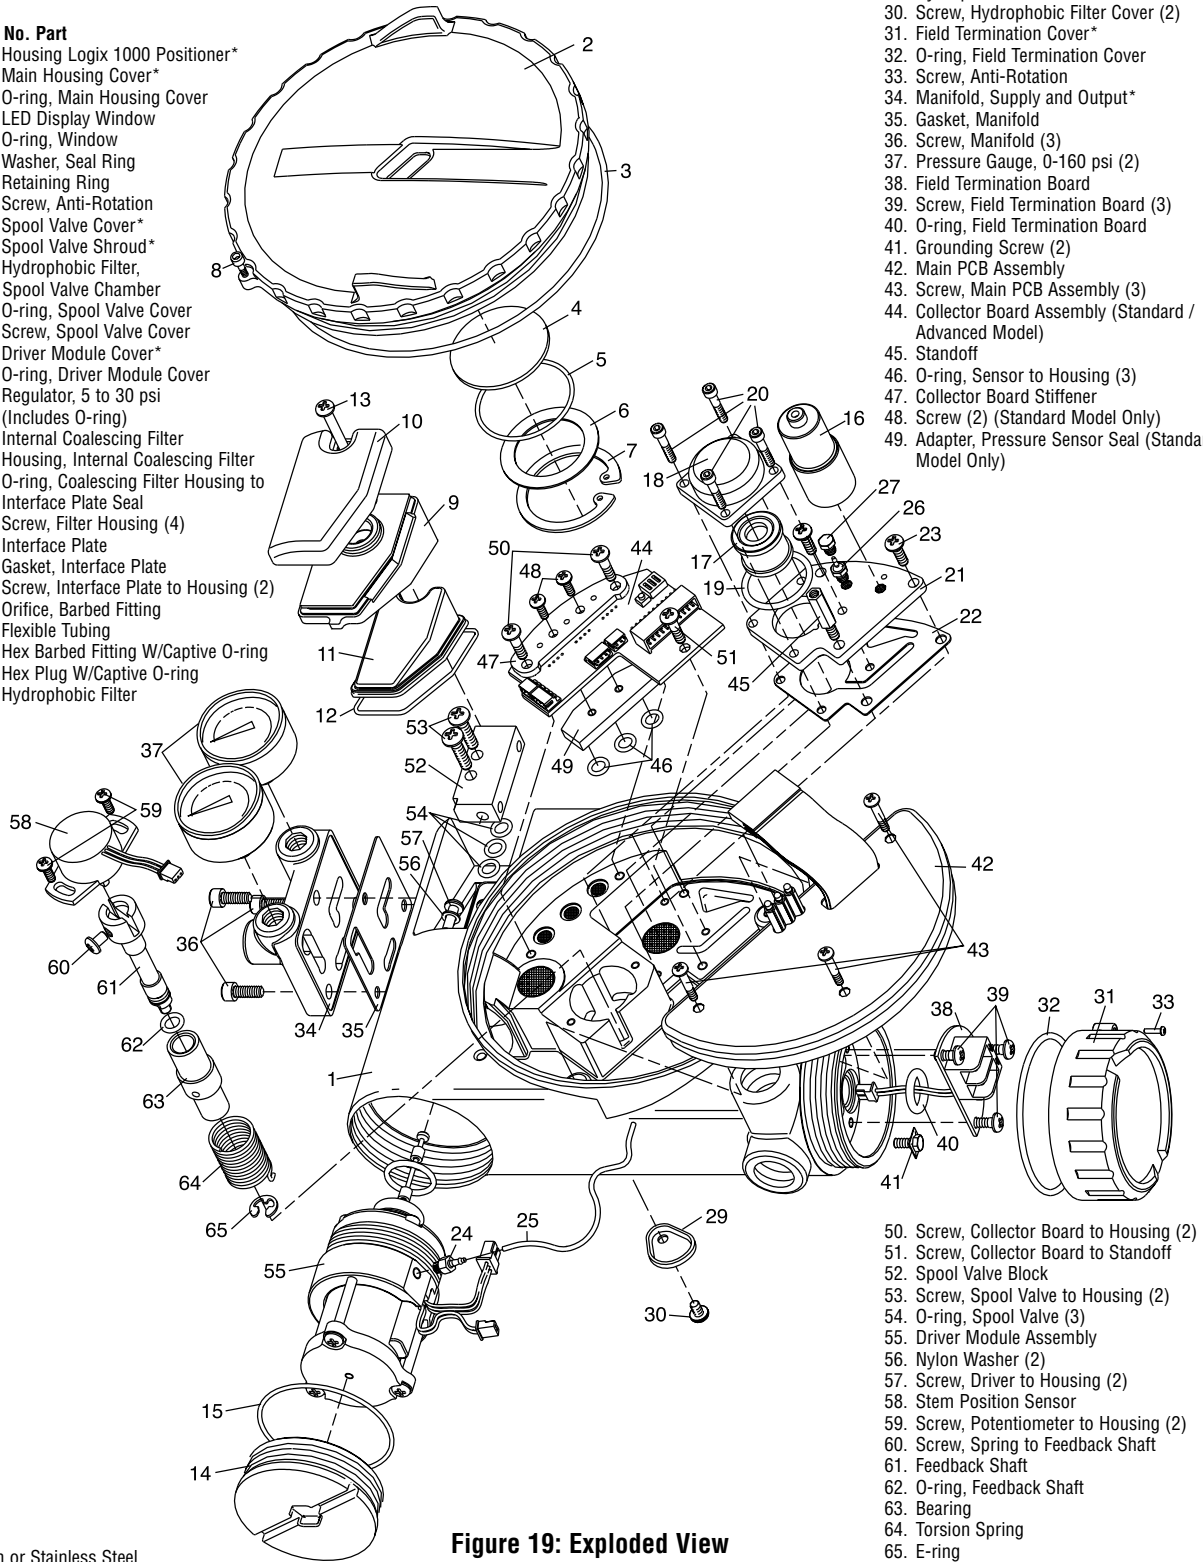

Figure 19: Exploded View
10. Once the gauge is connected, reapply the positioner air supply. The minimum pressure should now be registering on the gauge and must be 3.8 to 4.2 psi. If the minimum pressure is not correct, take a 0.14 Allen wrench and turn the minimum pressure set screw located at the bottom of the driver module (Figure 19) until the pressure is in the range indicated. Cycle the positioner air supply several times and recheck the minimum pressure and re-adjust, if necessary, to ensure that the pressure has settled within the range specified.